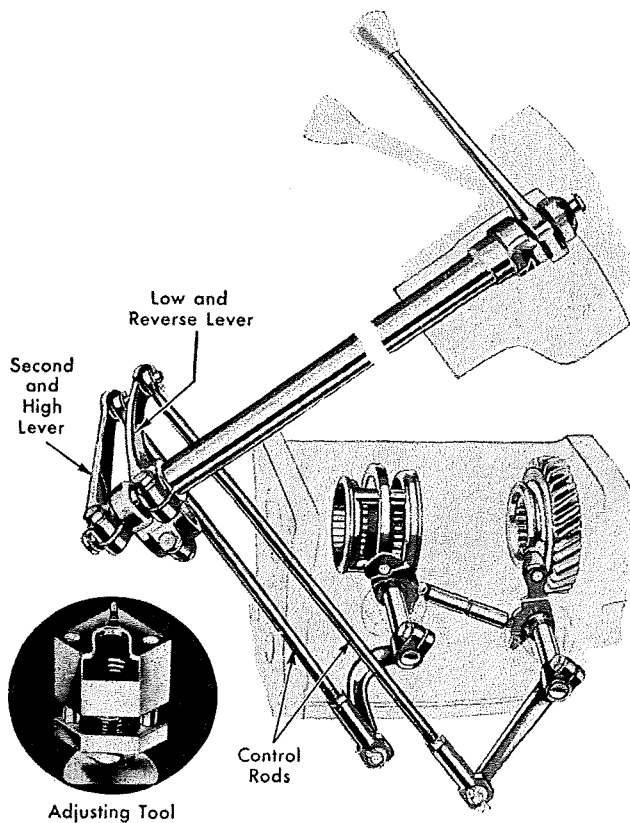

Fig. 4—Cadillac-La Salle 1938-42
1938-42: (See Fig. 4.) (1)—Set the hand control lever in neutral. (2)—Lengthen or shorten the adjustable end of the low and reverse shifter rod until the control lever can be lifted into the low and reverse positions without interference. NOTE—If this adjustment is not made accurately, it will be impossible to cross over from high and second to low and reverse; and may also cause the transmission to slip out of gear. Slipping out of gear may also be caused by a binding in the rubber bushings of the shifter connecting rods or to a loose rear engine support. (3)—Finally, lengthen or shorten the adjustable end of the high and second shift connecting rod until the hand control lever can be lifted into the high and second positions without interference.
1938-42: (See Fig. 4.) (1)—Disconnect the shift connecting rods at the levers. (2)—Remove the anti-rattle spring from the bottom of the steering column shift shaft. (3)—Apply a shift lever adjusting tool to the lower end of the second and high shift shaft at the base of the steering column and tighten the screw on the tool slightly. (4)—Loosen the clamp screw on the second and high lever. (5)—Turn the screw on the tool until two pounds tension is required to move the second and high lever back and forth (tension can be measured with a spring scale hooked to the outer end of the lever); then tighten the clamp screw.
(4)—Move the hand control lever down and forward in the second gear position until $\frac{1}{16}$ " space remains between the shift lever and the steering gear mast jacket (a $\frac{1}{16}$ " thick steel scale, or other suitable object, may be used as a spacer). (5)—Set the selector shaft lever in second gear position by pushing it in as far as possible, and shift it forward until the detents can be felt. (6)—While holding the hand control lever against the $\frac{1}{16}$ " spacer, and with the selector shaft lever still in the second gear position, lock the control shaft lever clamp bolt. (7)—Leave the control lever in second gear position and push the transmission selector